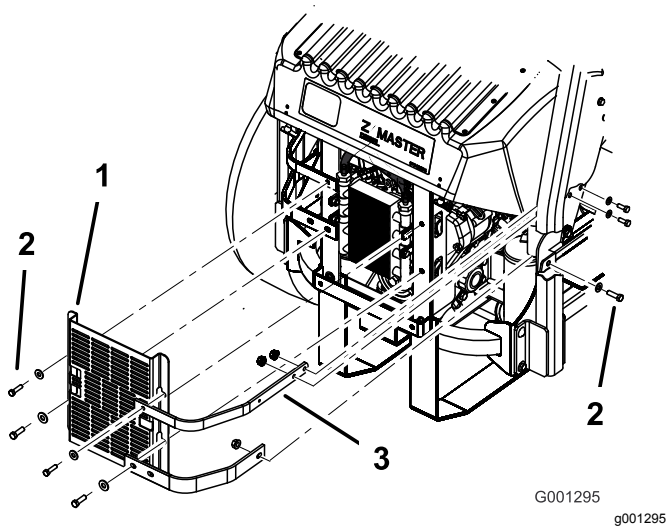

Figure 81
3. Remove the 4 bolts holding the oil cooler shield to the rear frame (Figure 81).
4. Remove the 3 bolts holding the engine straps to the side of the machine (Figure 81).
- Install the oil cooler shield and engine straps to the rear frame with the 4 bolts previously removed (Figure 81).
- Install the engine straps to the side of the machine (Figure 81).